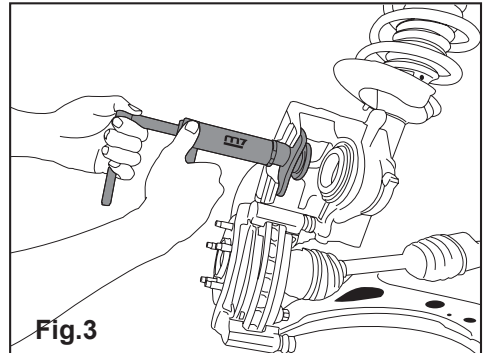

Fig.3
4. After pushing the piston backward, press button **2** and pull lever **3** to move the push spindle **5** backward, releasing the tool from the caliper. (Fig.3)